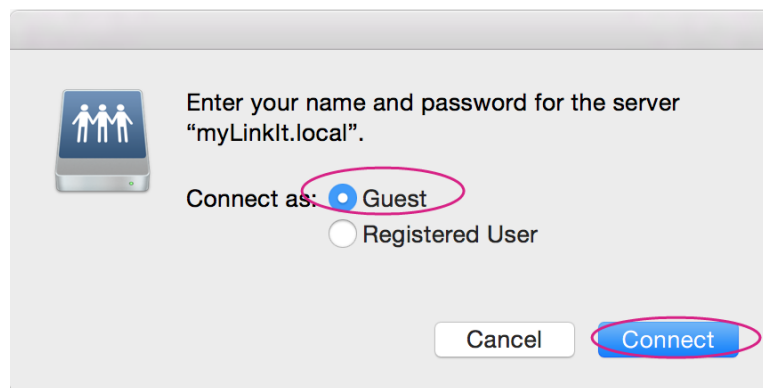

Figure 40 Connecting as guest to mylinkit.local on Mac
- 3) Connect as guest, as shown in Figure 40.